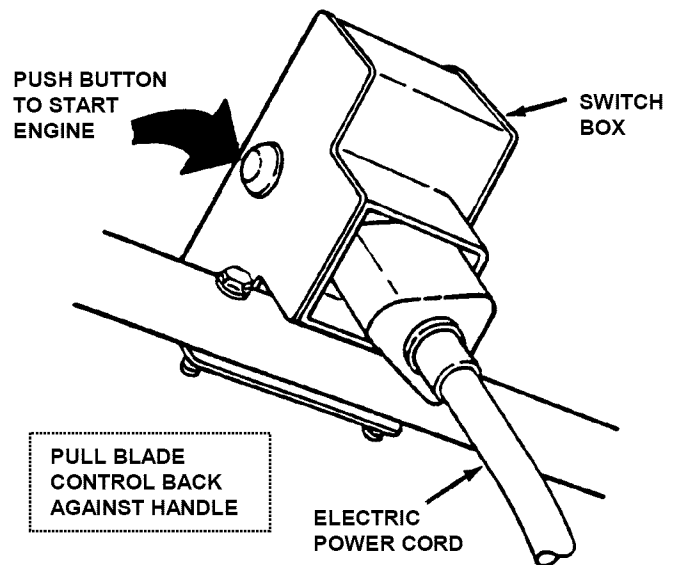

FIGURE 2.5
2. Connect power cord to the handle mounted switch box. See Figure 2.5.
4. Stand in operator's position. Move blade control against handle and hold in place. See Figure 2.5.
5. Depress starter button on switch box until engine starts. See Figure 2.5. **NOTE:** If after 5 seconds of cranking the engine and it does not start, release the starter button. Attempt starting again after waiting for approximately 20 seconds.